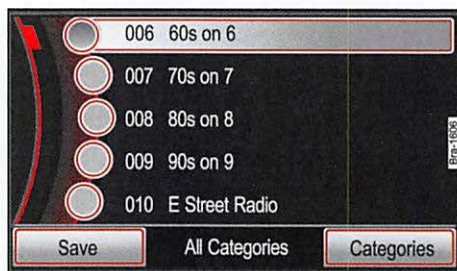

Fig. 15 Station list of all selectable stations (All Categories).
All the activated stations in the chosen category are displayed in the station list ⇒ fig. 15.
- Press the **Categories** function button ⇒ fig. 15.
If **All Categories** is selected, stations of all categories will be displayed ⇒ fig. 15.